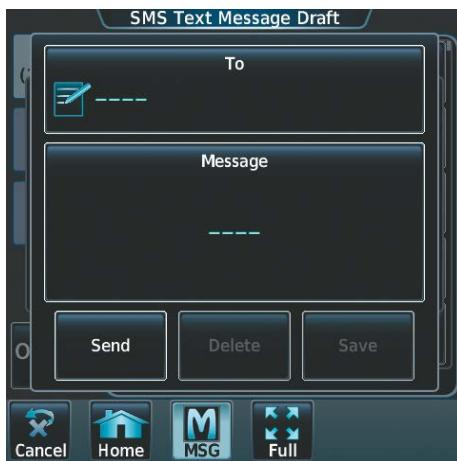

Figure 8-67 Touch 'To' Window
- The Opened SMS Text Message Draft Screen is displayed as shown in Figure 8-67. The Draft New Message option is also available from within the **Drafts** and **Outbox** Tabs.